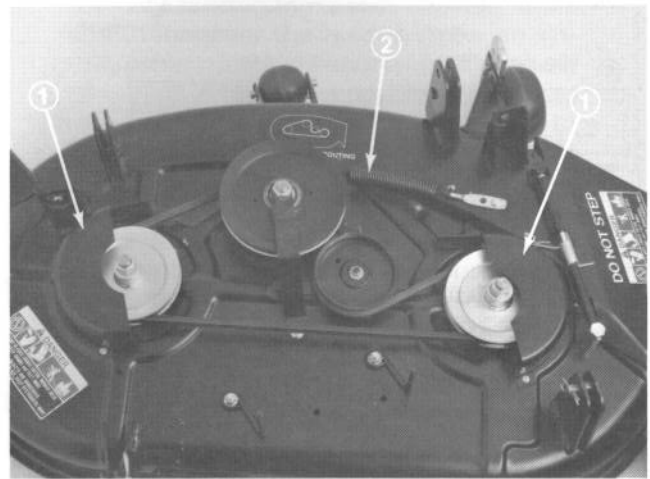

Figure 30
2. Remove the screws securing belt shields to deck and remove shields (Fig. 30).